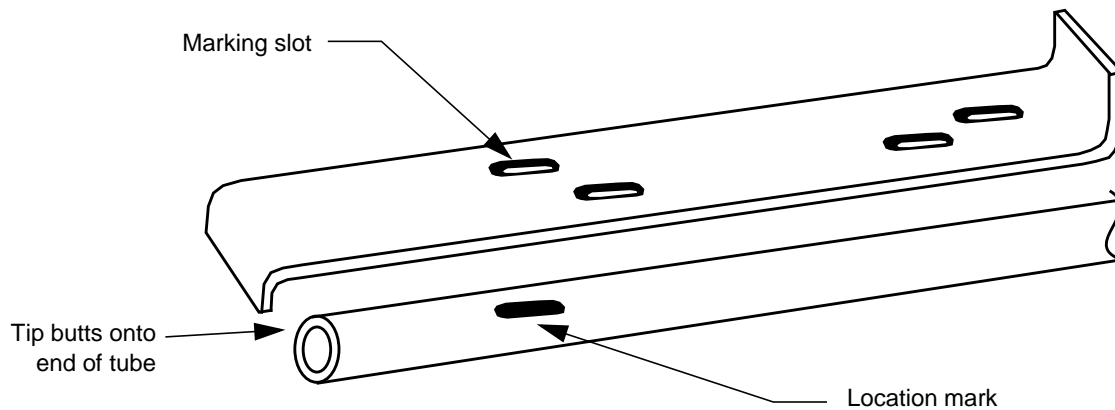

Figure 3. Insertion Marking Tool
Step 5. Using the marking pen in the insertion marking slot corresponding to the tube size dash number, apply 3 location marks spaced equally around the tube end (see Figure 3). Do not use a pencil to mark the tubing.